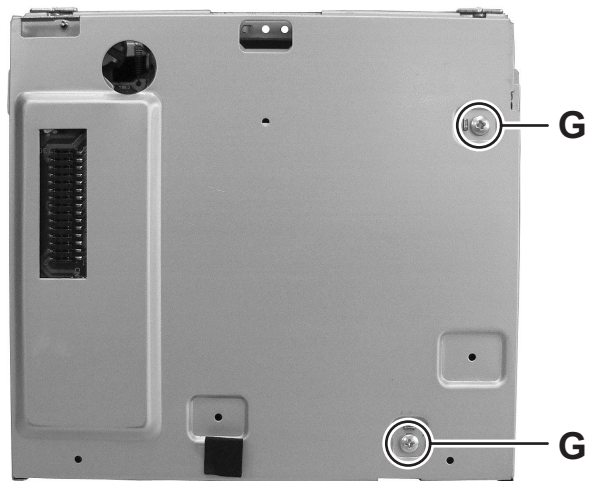

Fig.7
- (2) Remove the two screws **G** attaching the DVD bracket. (See Fig.7)